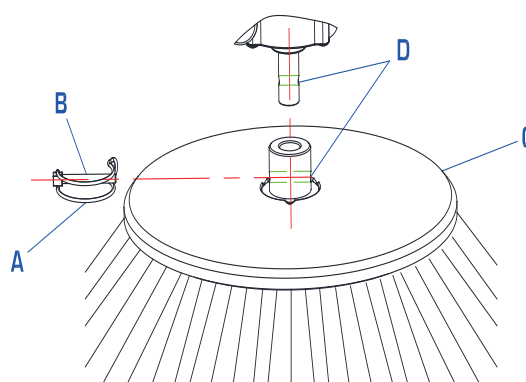

Figure8
1) Drive the machine on a level ground and release the pedal (2) and stop the machine.
3) Release the spring (A, Fig. 8), remove the pin (B) and the brush (C) from the gearmotor shaft.
4) Install the new side brush on the gearmotor shaft, insert the pin (B, Fig. 8) in the holes (D, Fig. 8), and engage the spring (A, Fig. 8)